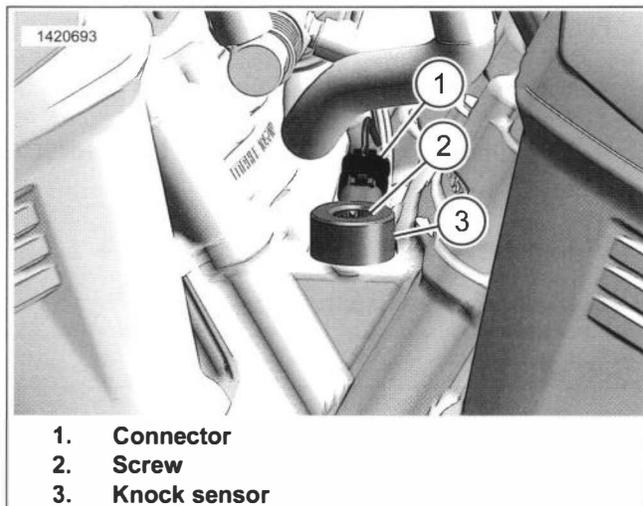

Figure 8-62. Knock Sensor
1. See Figure 8-62. Disconnect connector (1).
2. Remove screw (2).
3. Remove knock sensor (3).
1. See Figure 8-62. Install knock sensor (3).
2. Install screw (2). Tighten.